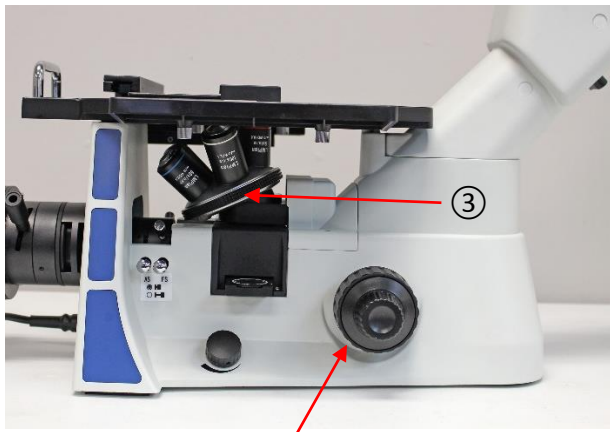

Fig. 1
Objectives (Fig. 1 & 2)
1. Turn the coarse adjustment knob ① (Fig. 1) until the revolving nosepiece is at its lowest position.
- Always rotate the nosepiece by using the knurled nosepiece ring (Fig 1, ③).